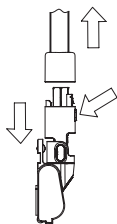

Рис.3
- Select the required attachment: motorized turbo brush with LED illumination (7) or crevice nozzle (12) and connect it to the extension pipe (5) (fig. 3).
- If necessary, you can attach the motorized turbo brush (7) or the crevice nozzle (12) straight to the air inlet of the vacuum cleaner, without using the extension pipe (5).
**Motorized turbo brush with LED lighting (7)**